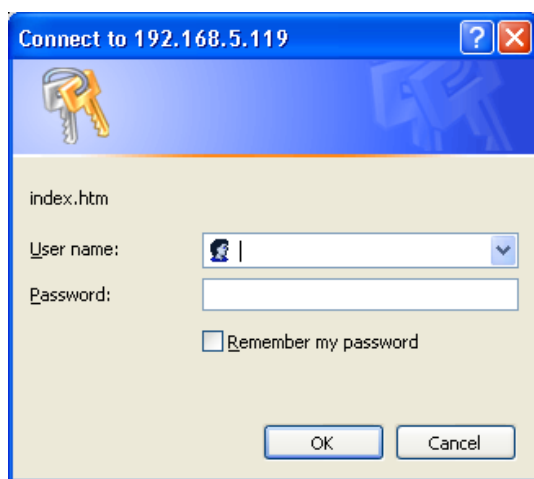

Figure 9. Example of Logon Screen
8. Now open your Internet Explorer program. In the address line enter <http://100.100.100.100> and then hit Return. You will then be asked for a username and password. An example of the login screen is shown in Figure 9. If this is your first time logging onto a UPLC™ unit from the factory, type “administrator” for the